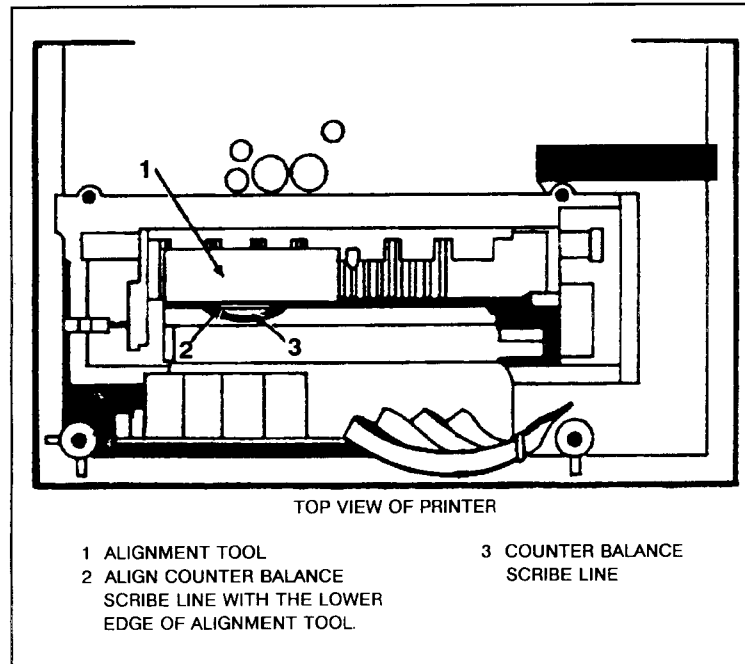

Figure 5-1. Crank Arm Phasing
- b. Place the phasing tool (P/N 02566-20129) against the printbar fins, with the edge of the tool resting on top of the counter balance (see Figure 5-1, item 1).
- d. Check the alignment of the counter balance weights to see if the scribed reference line is parallel with the edge of the tool (see Figure 5-1, item 2). If the line is parallel, no adjustment is needed. If the line is not parallel, proceed to step d.